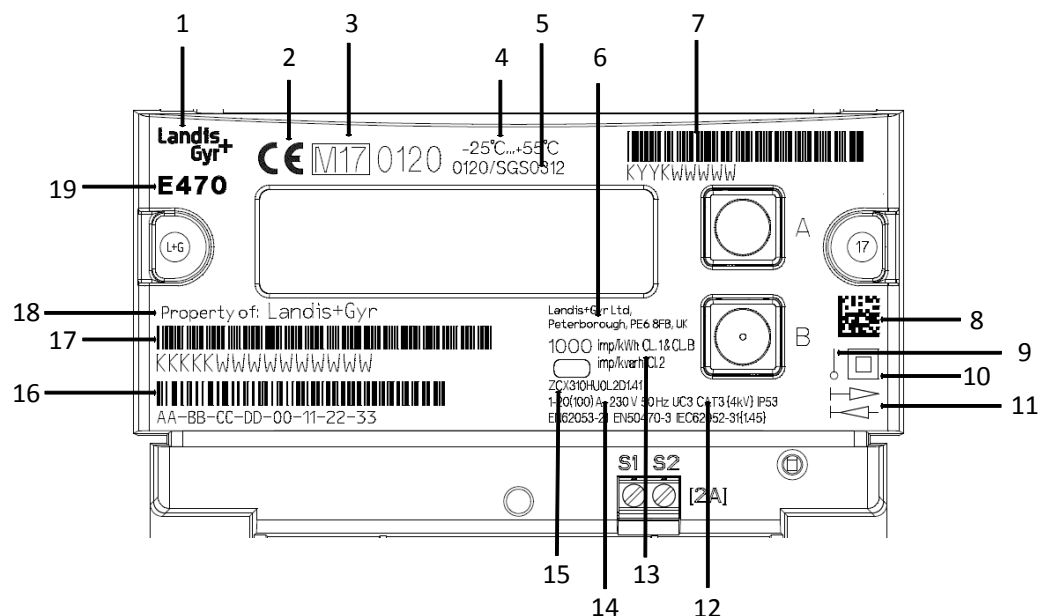

Figure 4 Example Faceplate information markings
- 5 Faceplate: see Figure 4 for details
The following information markings are permanently laser etched directly onto the meter front. Figure 4 shows an example layout.